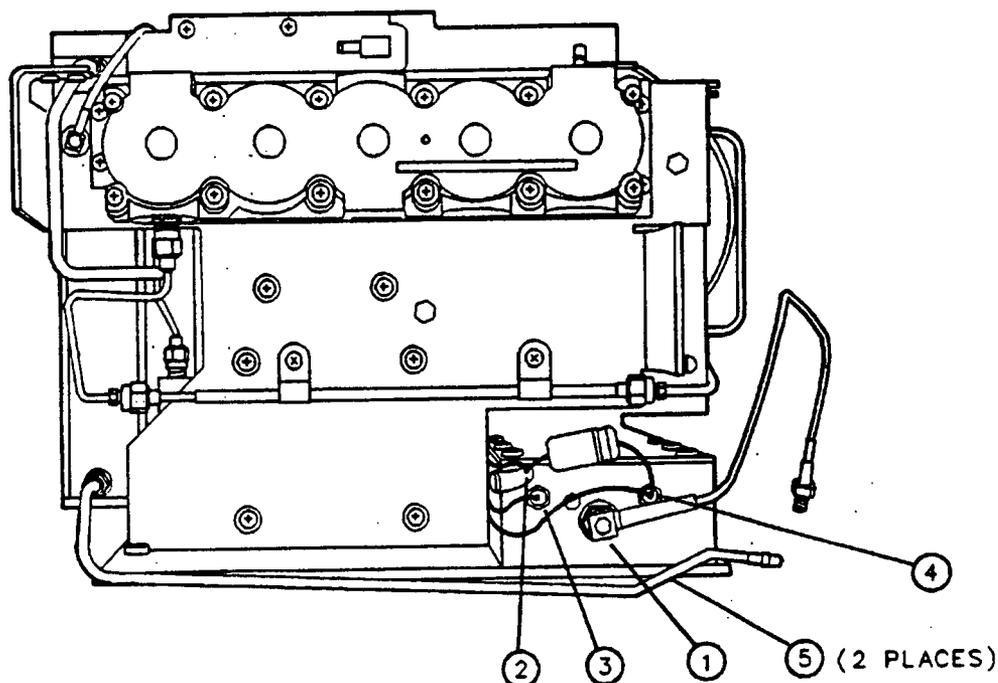

Figure 3-12. A3A1 Comb Generator Replacement
3. Disconnect the W24 coaxial cable (1) from the A3A1 Comb Generator. See Figure 3-12.
4. Desolder the orange wire (2) from the ground lug on the comb generator.
5. Desolder the violet wire (3) from the terminal on the comb generator.
6. Desolder the yellow wire (4) from the terminal on the comb generator.
7. Remove the two screws (5) that secure the comb generator to the “A” and “B” brackets.
2. Replace the two screws (5) that secure the comb generator to the "A" and "B" brackets. See Figure 3-12.
3. Solder the yellow wire (4) to the terminal on the comb generator.
4. Solder the violet wire (3) to the terminal on the comb generator.
5. Solder the orange wire (2) to the ground lug on the comb generator.
6. Connect the W24 coaxial cable (1) to the A3A1 Comb Generator and position it as shown in Figure 3-12.